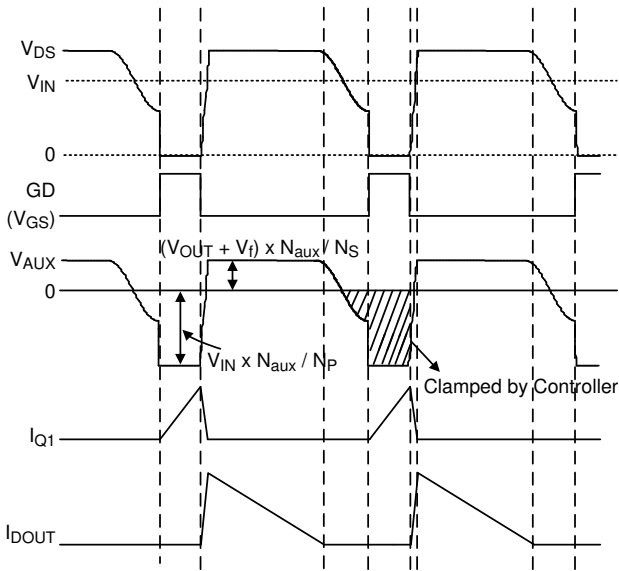

Figure 3. Key Waveforms of a Flyback Converter
The RT7304A needs no shunt regulator and opto-coupler at the secondary side to achieve the output current regulation. Figure 3 shows several key waveforms of a conventional flyback converter in Quasi-Resonant (QR) mode, in which  $V_{AUX}$  is the voltage on the auxiliary winding of the transformer.